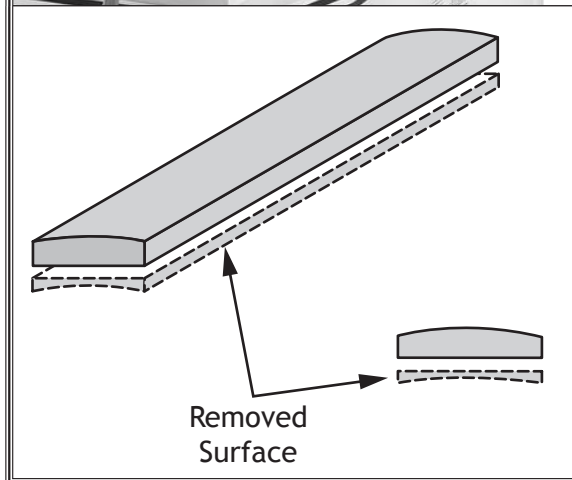

Figure 27. Example of a typical surface planing operation.
The purpose of surface planing (see **Figure 27**) on the jointer is to make one flat face on a piece of stock to prepare it for thickness planing on a planer.
5. Place workpiece firmly against fence and infeed table with concave side facing down, as shown in **Figure 27**.